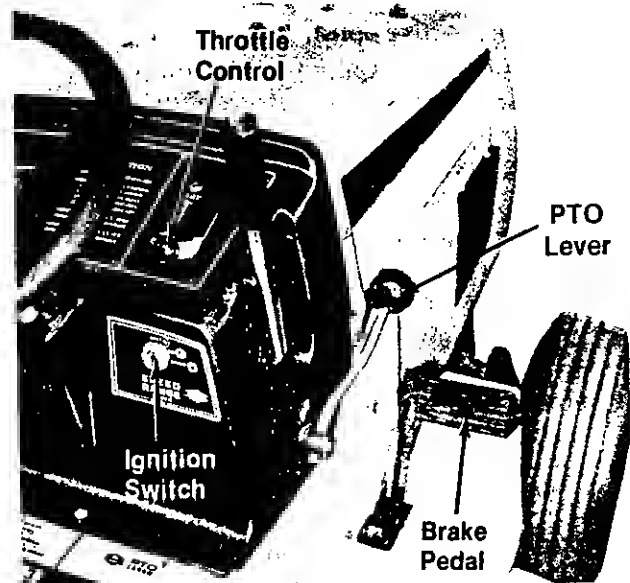

FIGURE 3.
**Throttle Control**—The throttle control is located on the right side of the dashboard and is used to regulate the engine speed. The engine should be operated from ¾ to full throttle (fast) when operating any equipment that uses the tractor engine as a source of power such as the mowing deck, snow thrower or rotary tiller. See figure 3.
**Ignition Switch**—The ignition switch is located on the right side of the dashboard. Turn the key to the START position to start the engine. When the engine is running leave the key in the ON position. To stop the engine, turn the key to the OFF position. See figure 3.
**Brake Pedal**—The brake pedal is located on the right side of the frame. Depressing the brake pedal will engage the disc brake located on the transaxle. The clutch pedal **MUST** be depressed as well as the brake pedal to stop the tractor. See figure 3.
**Power Take Off (PTO)**—The PTO lever is located on the right side of the tractor. Moving the lever forward engages the PTO and moving it backward disengages it. Figure 3 shows the PTO lever in the engaged position.
- A. Disengage the PTO lever. See figure 3.
- C. Set the throttle control in the fast position. See figure 3.
- E. Turn the Ignition key clockwise to the start position. See figure 3.